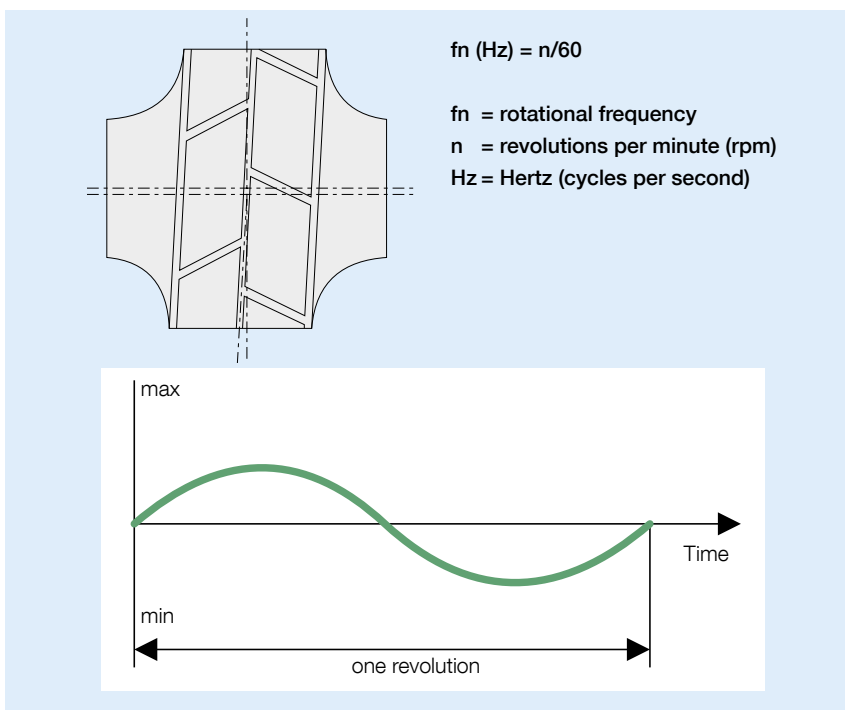

Fig. 7. Pressure pulsations at rotational frequencies
- an inaccurate surface symmetry which means the lack of perpendicularity and/or a singular irregularity on the impeller surface, Fig. 7.